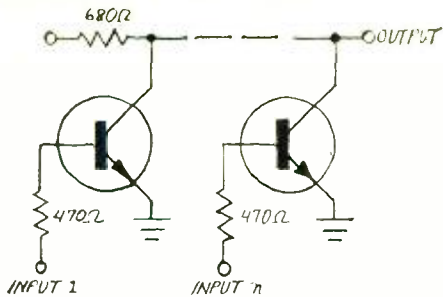

Fig. 2. N-input discrete-component logic gate.
**Construction.** The foil pattern for the Ultimate Counter, using a Nixie tube readout, is shown in Fig. 2. Component and jumper installations are also shown. The foil pattern will have to be altered if the 7447 IC is used for 7-segment readout. The power supply shown in Fig. 3 can be used to supply several counter boards.
Fig. 2. Actual-size foil pattern and component installation for Nixie-tube operation. The foil pattern for IC3 will have to be revised if a 7-segment driver is to be used.
Figure 2 shows how you can breadboard logic gates with discrete components. Readily available resistor values are somewhat greater than those conventionally used in integrated circuits, but they are close enough for the most part—especially if you do not attempt to work your discrete-component setups close to maximum fan-out. But when working with critical circuits, you shouldn't load your circuits too heavily in any case.